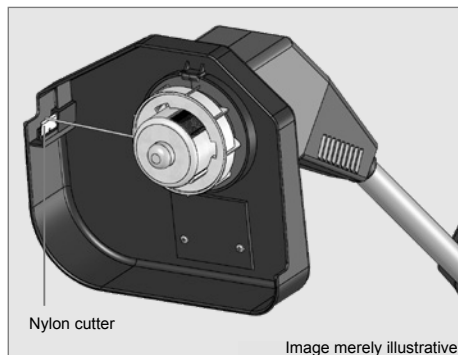

Fig. 1
- ✓ Under no circumstances should the trimmer be used without the protection shield (see Figures 1 and 2), under the risk of power loss and motor burning, besides ensuring the safety of the operator during handling.